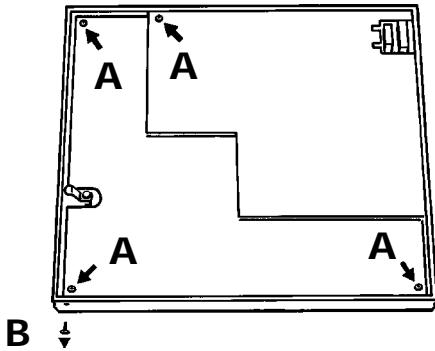
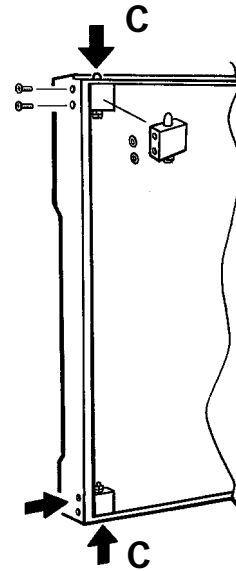

Figure 4.10.2a Inner cover securing screws
Figure 4.10.2b Door catches (if fitted)
- a. Release the door inner cover by undoing and removing the fixing screws ('A' in figure 4.10.2a). Remove the plastic door guide if fitted ('B' in figure 4.10.2a) and keep safely for later re-assembly. Remove the door latches ('C' in figure 4.10.2b) if fitted (depends on model).